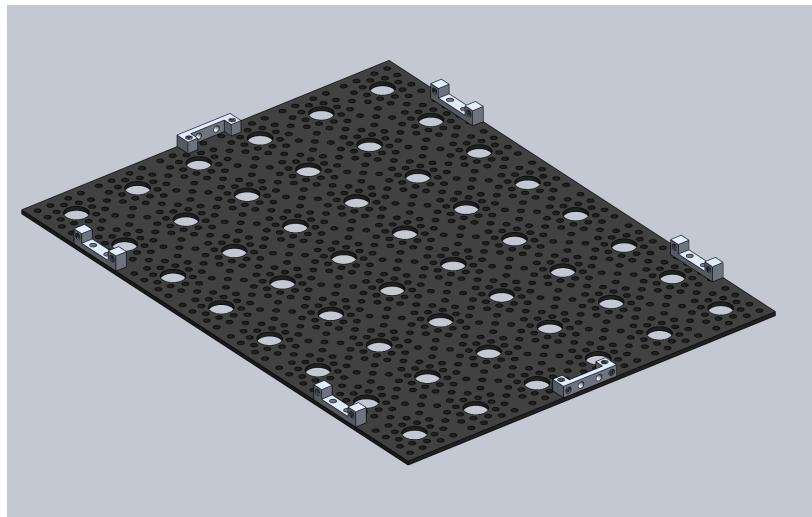

Figure 14: Building the Bottom Panel
7. **Build bottom plate assembly:** Take the 9x12 Aluminum Plate **S35** and attach 6 dual side mount A **S17** along the edges as shown in Figure 14. Be sure to verify that the orientation of the dual side mounts **S17** matches the pictures.